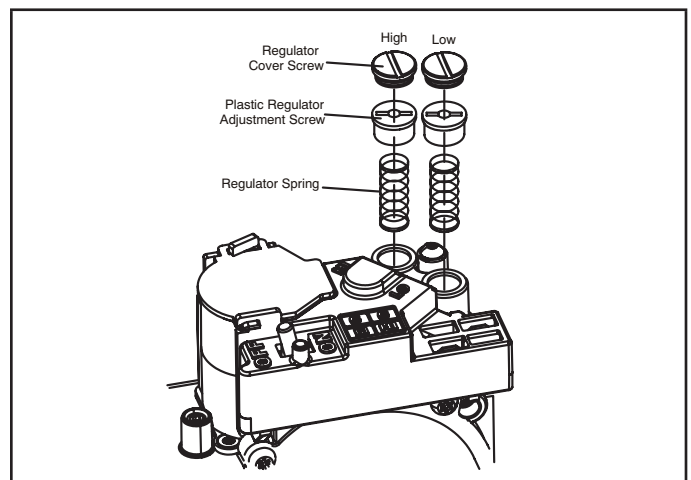

Figure 5
- a - Remove both high fire and low fire springs from the gas valve. See figure 5.